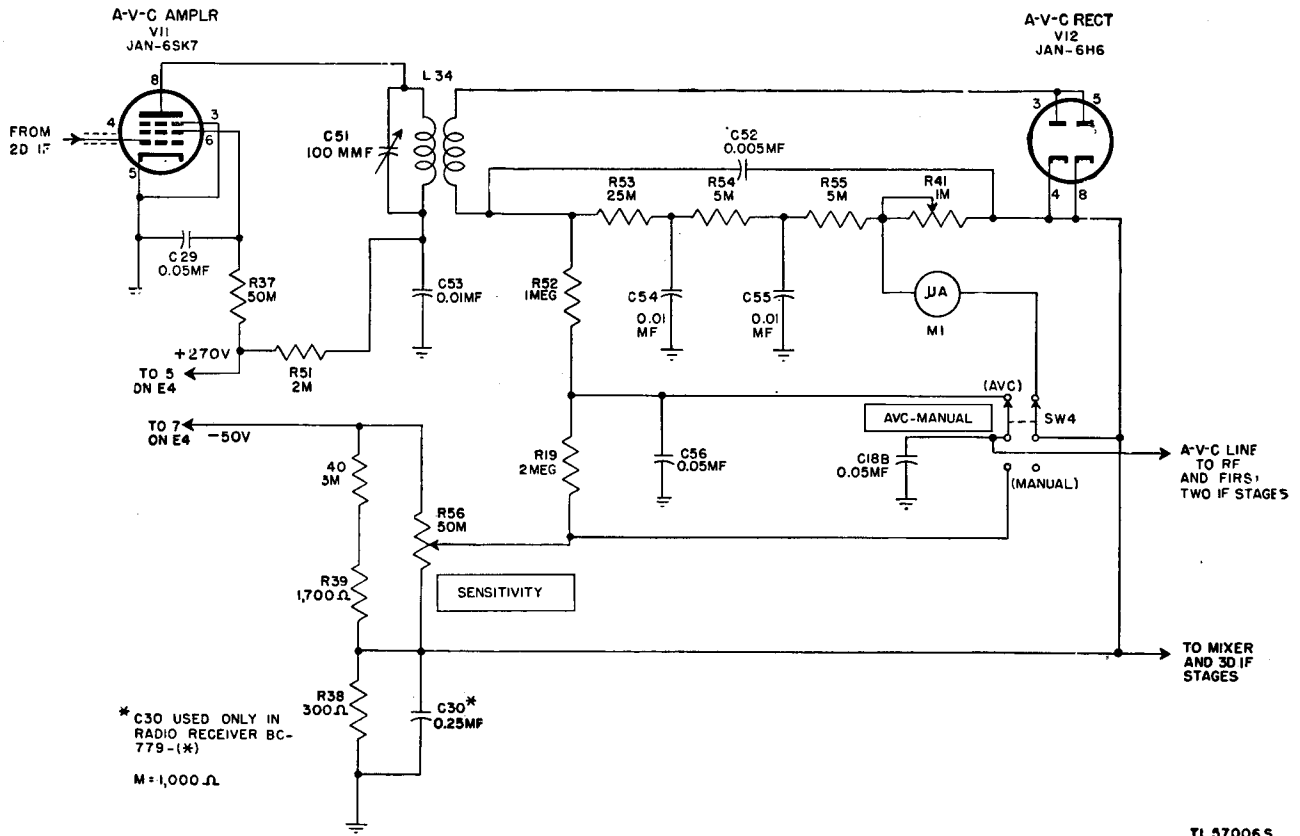

Figure 31. Radio Receiver BC-779-B, functional diagram of a-v-c stages.
a. *MIXER TUBE JAN-6L7.* For simplicity, capacitor C71, main tuning ganged capacitor C1C, and band spread ganged capacitor C2C are represented as a single variable capacitor *C* across the inductance trimmed secondary of r-f transformer L18. Signal voltages across *C* are applied through 600-mmF capacitor C11 to signal grid G1 (top cap) of pentagrid mixer Tube JAN-6L7. Fixed bias from the voltage divider (fig. 31) is applied through a filter circuit (10,000-ohm resistor R10 and 0.01-mf capacitor C12) and 500,000-ohm grid resistor R9 to the signal grid. Screen grid G2 and G4 (pin 4) forms a screen about injection grid G3 (pin 5), and the h-f oscillator output is coupled through 95-mmF capacitor C13 to the injection grid. Since the screen grid shields the signal and injection grids from one another, the tube electron stream is modulated independently by the r-f and oscillator signals. Heterodyne action produces sum and difference frequencies in the mixer output. The primary of transformer T1 is tuned by C21 to the 465-kc *difference* frequency to which the i-f amplifier is also tuned. The i-f voltage across the secondary winding of transformer T1 is applied to the crystal filter.
65. A-V-C Circuit (fig. 31)
and to the control grid (pin 4) of the a-v-c amplifier stage V11 (fig. 31). V7 and V11 have a common grid circuit, including fixed bias. The suppressor and cathode of V11 are grounded; screen voltage is applied to pin 6 through 50,000-ohm series-dropping resistor R37; and the screen is bypassed by 0.05-mf capacitor C29. Plate (pin 8) voltage is applied through 2,000-ohm filter resistor R51 and the primary of transformer L34. The primary of L34 is tuned to 465 kc by 100-mmf capacitor C51, and capacitor C53 (0.01-mf) bypasses high frequencies to ground. The transformer secondary is untuned.